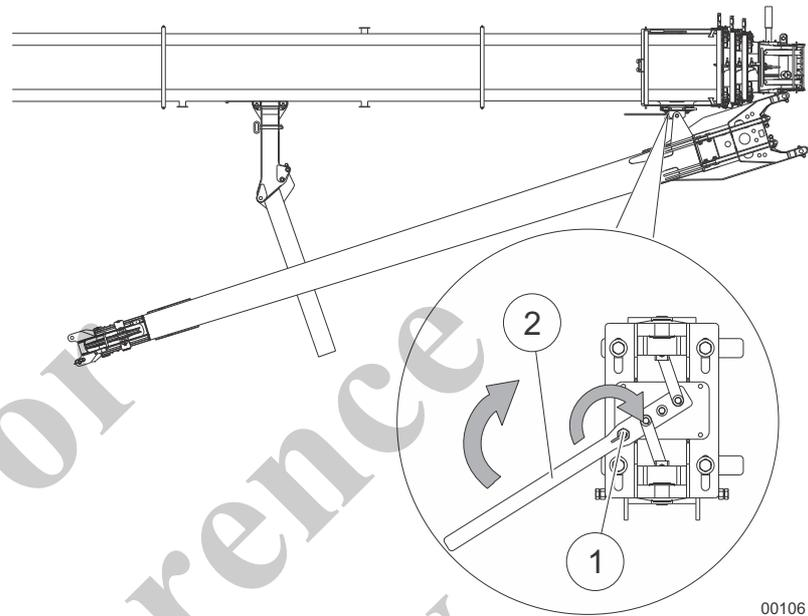

Fig. 212 Releasing the locking mechanism
- 15 Turn the retaining lever (1) in Fig. 212 of the fly boom lock to the right. Pull the locking lever (2) in Fig. 212 upwards.